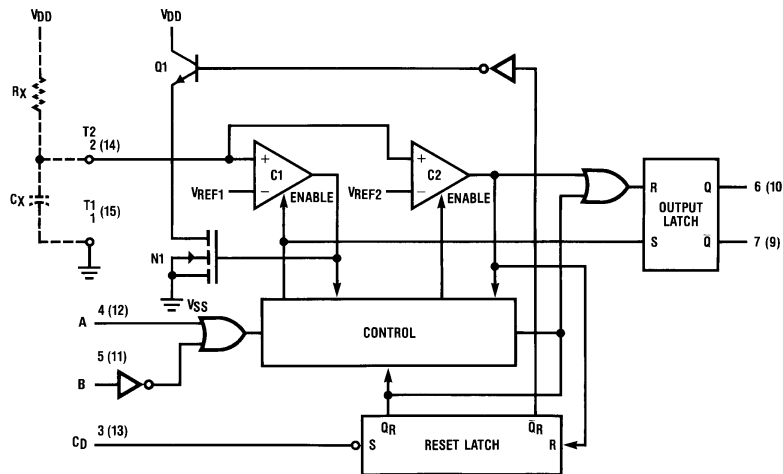

FIGURE 1
The block diagram of the CD4538B is shown in Figure 1, with circuit operation following.
As shown in Figures 1 and 2, before an input trigger occurs, the monostable is in the quiescent state with the Q output low, and the timing capacitor C_X completely charged to V_{DD} . When the trigger input A goes from V_{SS} to V_{DD} (while inputs B and C_D are held to V_{DD}) a valid trigger is recognized, which turns on comparator C1 and N-Channel transistor N1 ①. At the same time the output latch is set. With transistor N1 on, the capacitor C_X rapidly discharges toward V_{SS} until V_{REF1} is reached. At this point the output of comparator C1 changes state and transistor N1 turns off. Comparator C1 then turns off while at the same time comparator C2 turns on. With transistor N1 off, the capacitor C_X begins to charge through the timing resistor, R_X , toward V_{DD} . When the voltage across C_X equals V_{REF2} , comparator C2 changes state causing the output latch to reset (Q goes low) while at the same time disabling comparator C2. This ends the timing cycle with the monostable in the quiescent state, waiting for the next trigger.